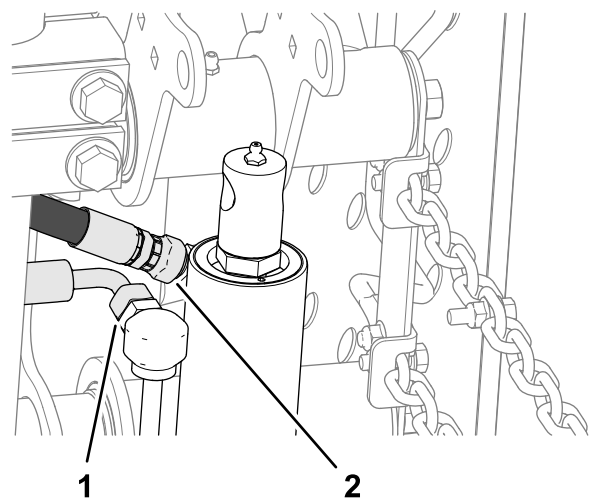

Figure 12
2. At the lift cylinder, loosen the straight swivel fitting of the return hose and the 90° swivel fitting of the lift hose (Figure 12).